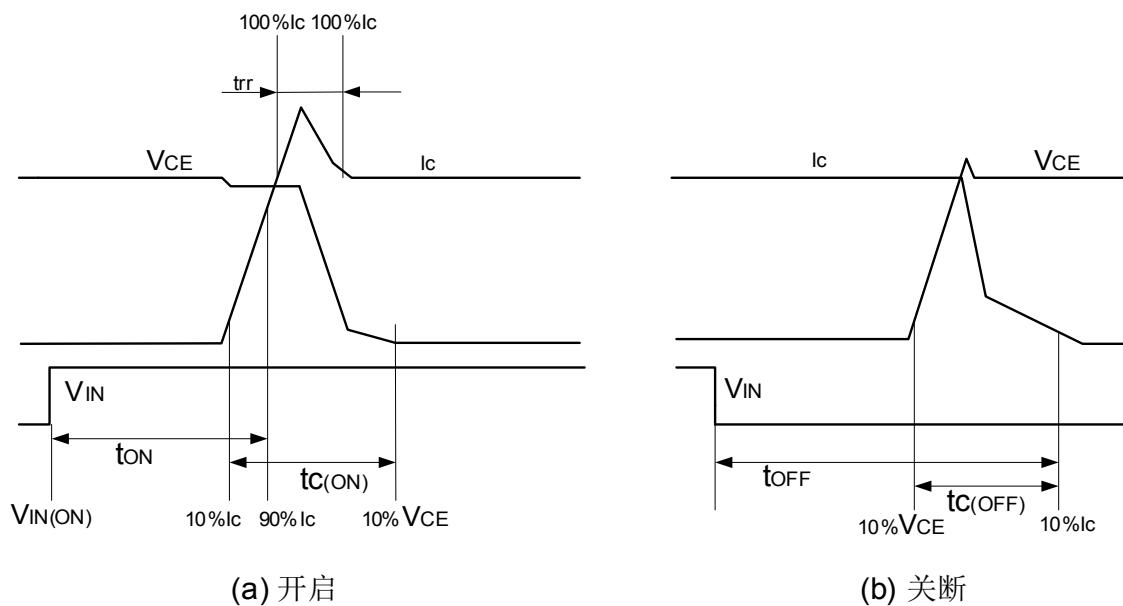

图 4: 开关时间定义 Fig 4: Switching Time Definition
备注 2:  $t_{ON}$  和  $t_{OFF}$  包括驱动  $I_c$  内部传输延迟时间。  $t_{C(ON)}$  和  $t_{C(OFF)}$  是 IGBT 自身被内部给定门极驱动条件下的开关时间。详见图 4。
NOTE 2: tON and tOFF include the propagation delay time of the internal drive IC. tC(ON) and tC(OFF) are the switching time of IGBT itself under the given gate driving condition internally. For the detailed information, Please Refer to Fig 4.